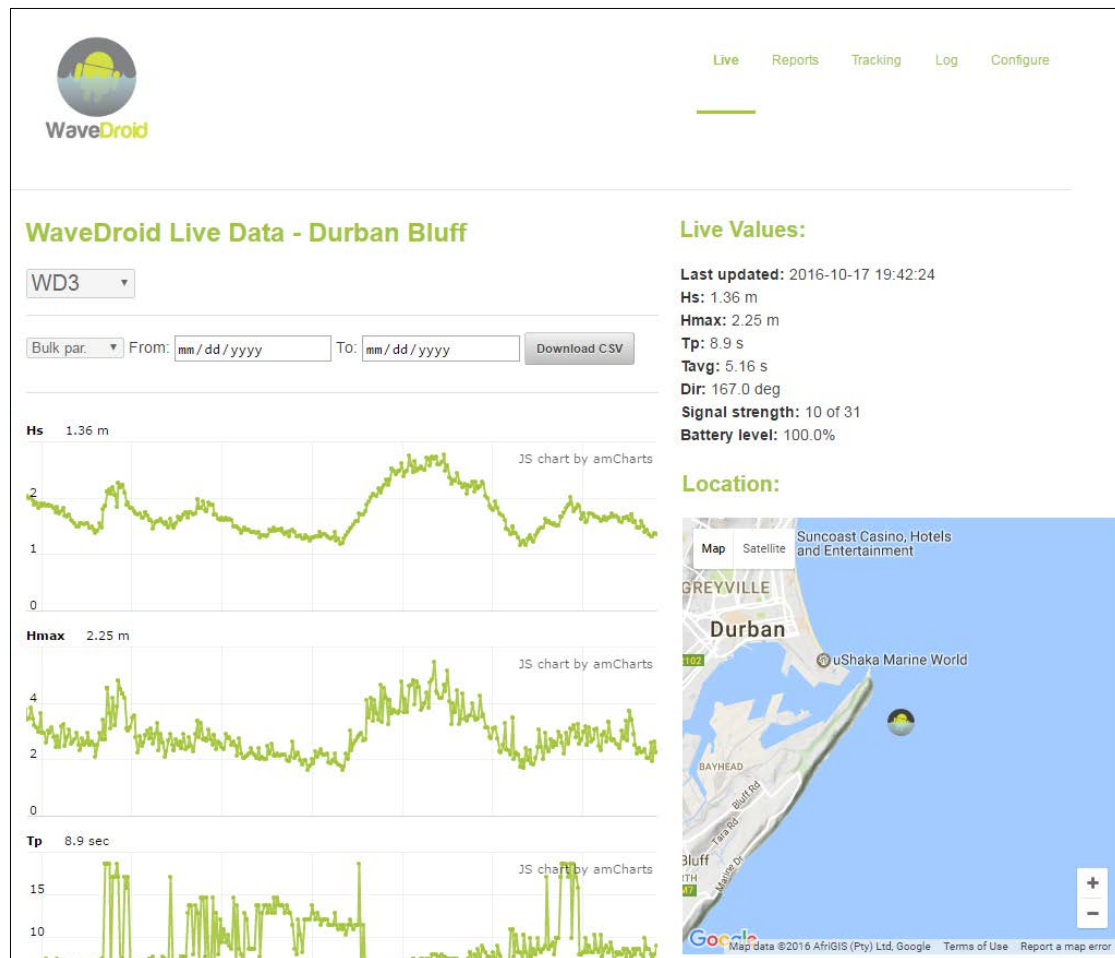

Figure 5: Live data webpage screenshot
- View interactive graphs of all bulk wave parameters (Figure 5).